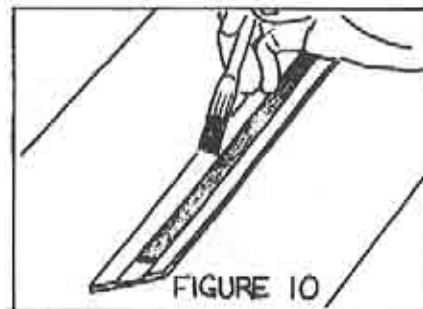
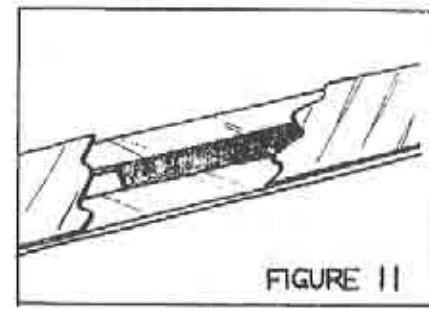

FIGURE 10
FIGURE 11
Spread out a piece of waxed paper or similar material to protect your work surface. See Figure 10. Alan used a piece of Crown Freezer Paper (TM). This material consists of a plastic film with a paper backing. Alan placed the plastic side up. Apply a thin coat of grease or some other releasing mechanism to the joiner blade and place it in the routed groove. Make sure one end protrudes from the eventual structure sufficiently for pliers to get a good grip on the end. Brush 5 Minute epoxy on either side of the routed groove, then place the 1/16" plywood strip on it. That's right, the wing blade should be inside the assembly during the curing process! See Figure 11.